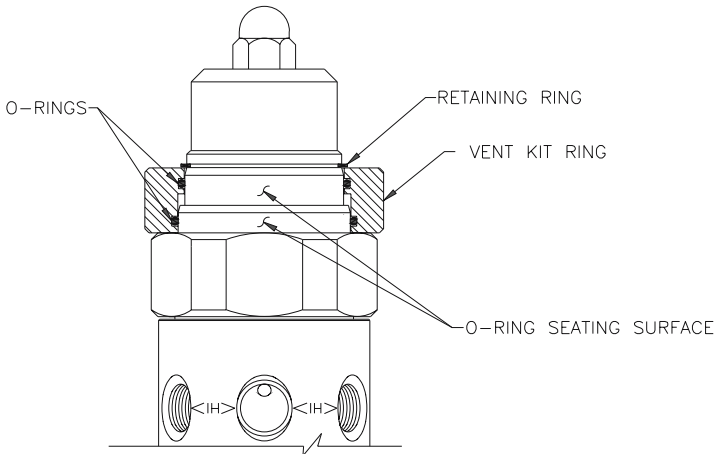

Figure 2. First stage of a dual stage regulator.
13. For the first stage of a dual stage regulator or a regulator without a knob, perform steps 1,2, 6, 7, 8, and 12. (Refer to Figure 2.)